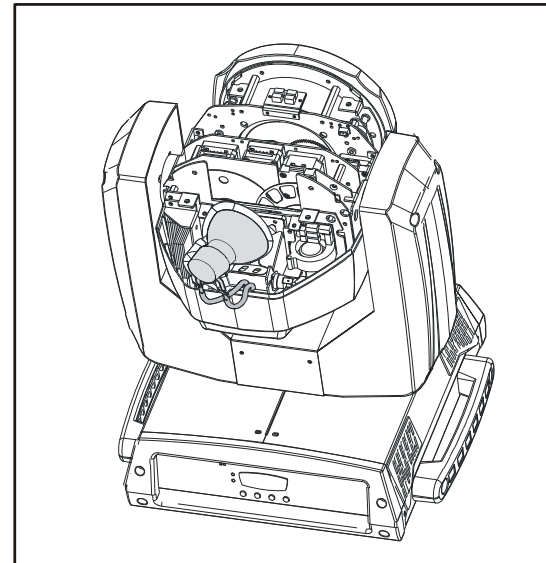

Figure 4
4. Disconnect the lamp and connect the replacement lamp (Figure 4).